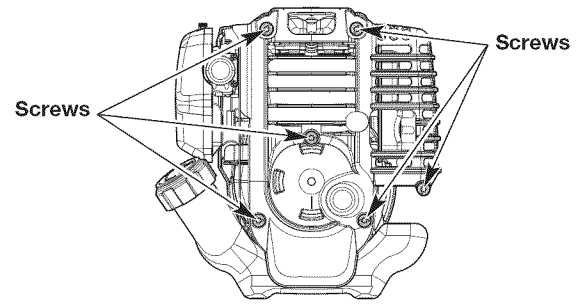

Fig. 18
1. Remove the 6 screws from the engine cover with a flat-head screwdriver or T-25 Torx screwdriver (Fig. 18). Remove the engine cover.
2. Remove the 6 screws from the engine cover with a flat-head screwdriver or T-25 Torx screwdriver (Fig. 18). Remove the engine cover.